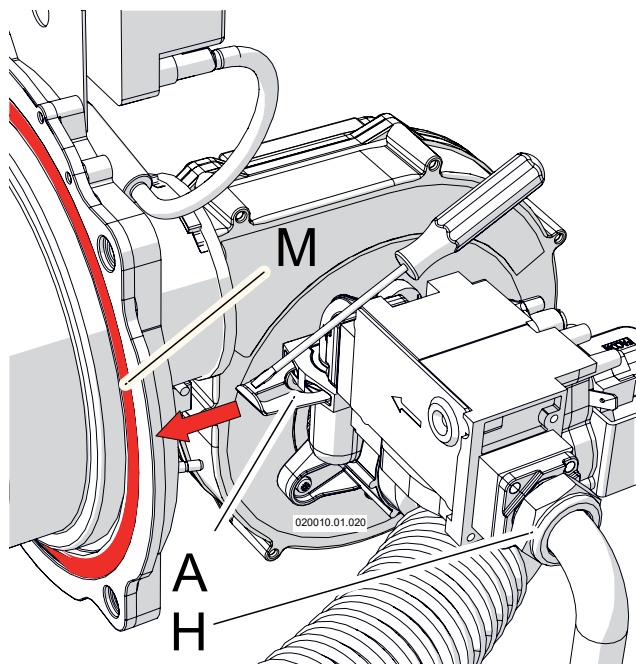
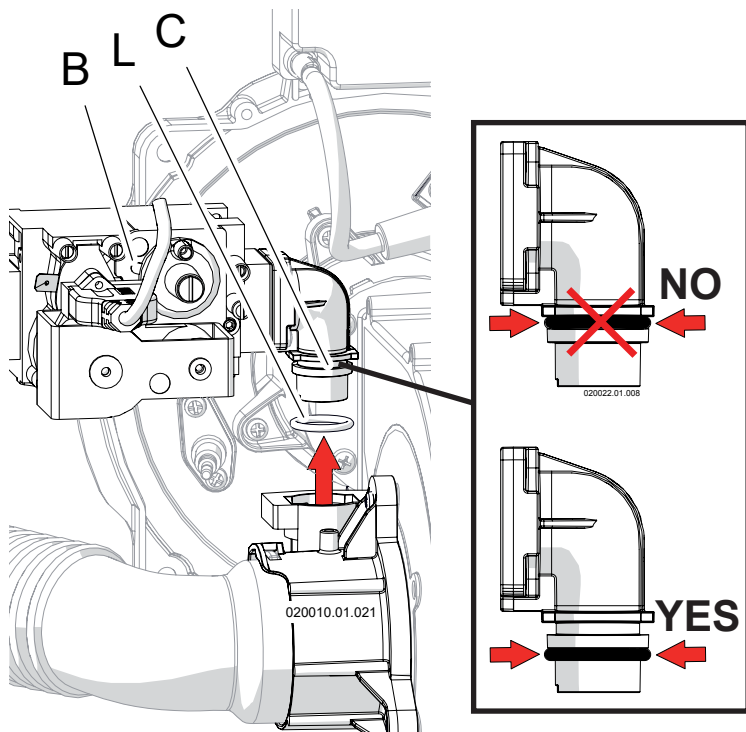

Figure 16-5 - Nut and spring that fixes the gas valve
Figure 16-6 - Remove the gas valve
- 7.- Unscrew nut "H" (Figure 16-5). Pay attention to the gasket between nut "H" (Figure 16-5) and the gas valve;
- 8.- Take away the spring "A" as per Figure 16-5. Help yourself with a screwdriver;
- 10.- Remove the gas valve from its position (see Figure 16-6). Take care attention to the o-ring "L" of Figure 16-6;
- 17.- Replace gasket "M" as per Figure 16-5 (Part number for this gasket is in Section 18). Take care that the gasket and its site are clean.
Pay attention to the gasket "M" (Figure 16-5) during reassemble. When finished, perform a leakage test with the burner firing. Always use an approved leak detection method. Failure to comply with this warning can cause fire, extensive property damage, severe personal injury or death!
- 18.- Reassemble the components by proceeding in reverse order. Pay attention in the reinstalling of gasket between nut "H" of Figure 16-5 and of the o-ring "L" of Figure 16-6. These must be in good condition. If not they must be replaced with;